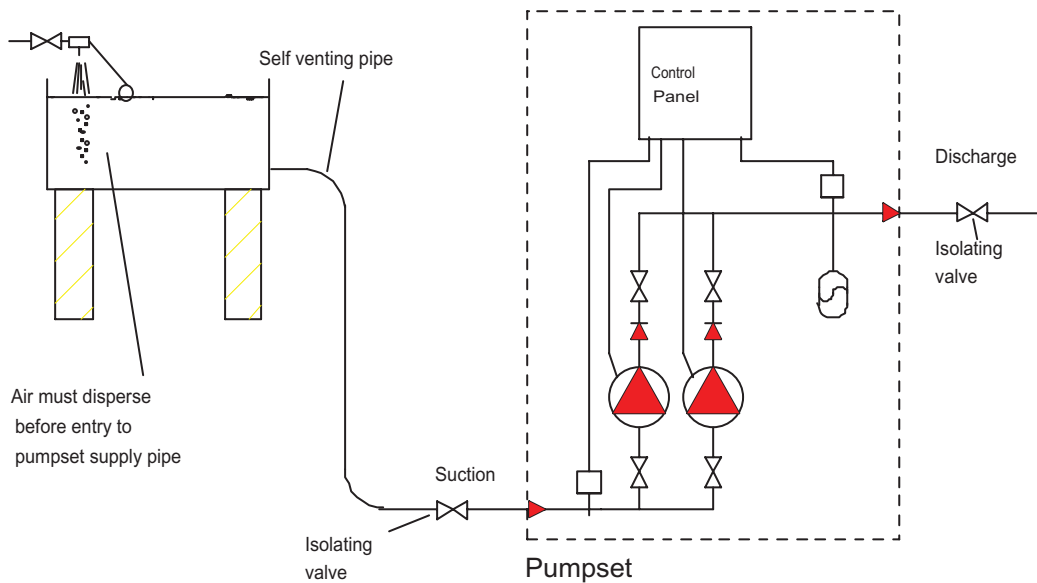

Fig. 1.1 Pipework
- 1.3.4.2 **Arrange the suction pipework to be self venting** between the mains water break tank and the pumpset suction manifold (see fig.1.1).
- 1.3.4.3 **Fit isolating valves to the suction side and discharge side of the pumpset** (see fig.1.1), to enable the pumpset to be isolated from the system for maintenance purposes.